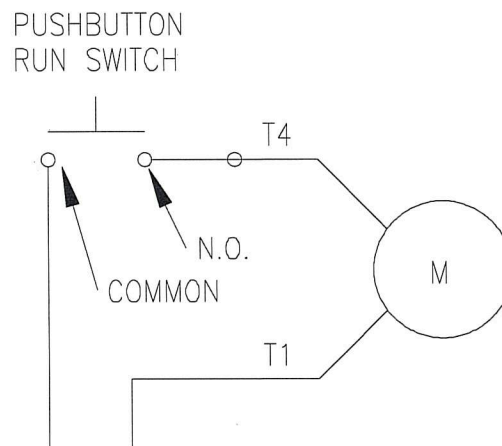

FIGURE 11. GHS Power Unit Electrical Diagrams
21. Make the electrical hook-up to the power unit, 220 V single phase. Refer to Figure 11, Electrical Diagram.